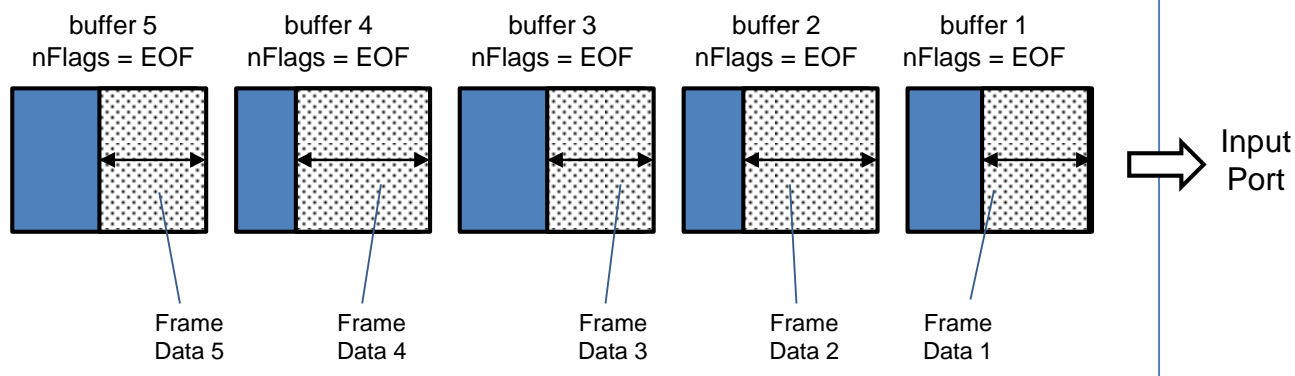

Figure 3-1 Example of Input Buffer Sequence - A Frame Data Unit
- The input data unit is a frame data (see Figure 3-1)